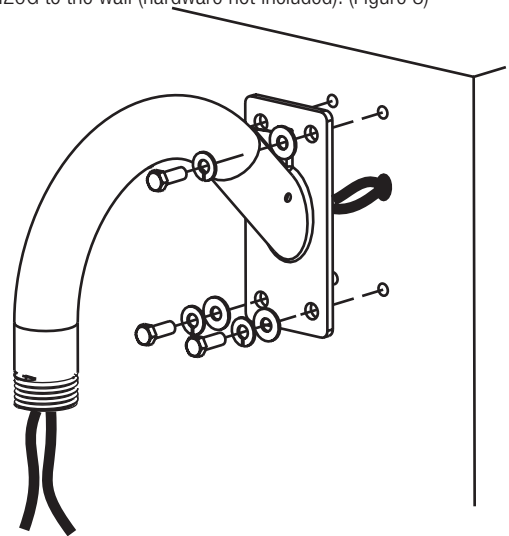

Figure 3
4. Mount the WM20G to the wall (hardware not included). (Figure 3)
Set the gauge on the regulator to between 10 and 20 psi. Place the air chuck on the Schraeder valve, just as you would on a tire, and press down to begin filling. Continue until you hear air venting from the pressure relief valve (located under plastic cover—see Figure 3 on previous page). Drain all air in housing and refill housing. Repeat an additional 2 times. After refilling for the third time, check pressure in housing. It should read between 5 to 7 psi.